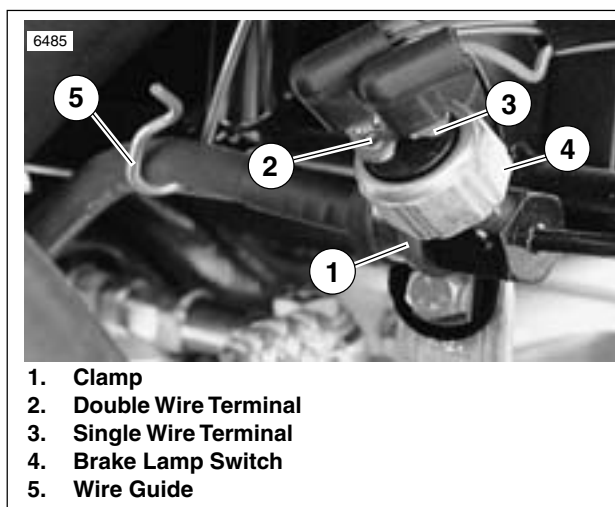

Figure 2-47. Brake Line and Switch
4. See Figure 2-47. Remove screw and clamp (1) to detach brake line clamp from frame.
6. See Figure 2-47. Remove brake line from wire guide (5) under oil tank.
7. Remove wires from terminals (2, 3) at top of brake lamp switch. Unthread brake lamp switch (4) from tee nut.
3. See Figure 2-47. Install screw and clamp (1) to fasten rear brake line to frame tube. Tighten to 10-12 ft-lbs (14-16 Nm).
4. Place brake line inside wire guide (5) under oil tank.
- See Figure 2-47. Install brake lamp switch (4).